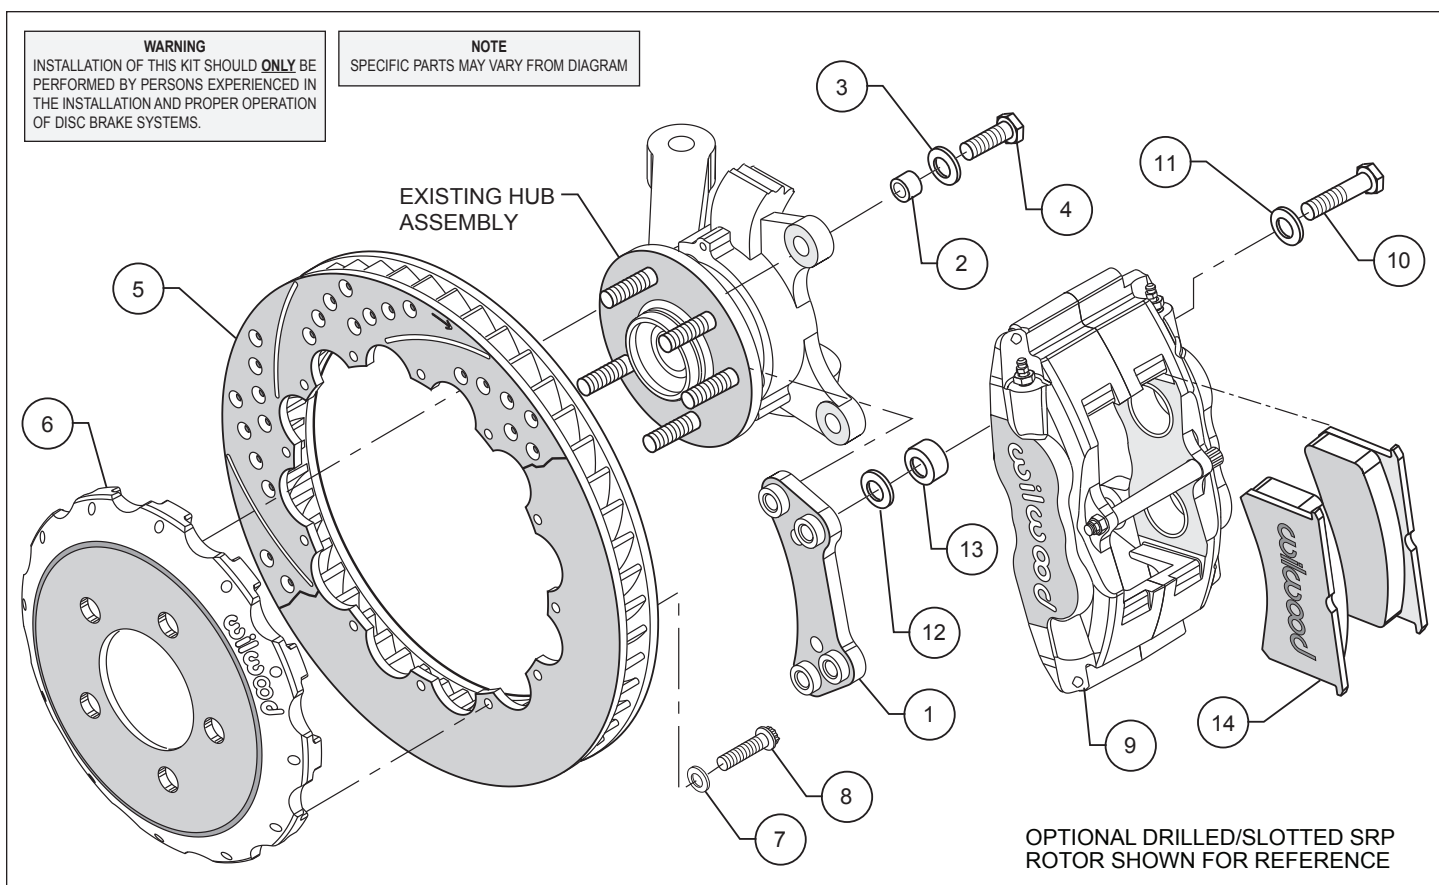

Figure 1. Typical Installation Configuration
- Insert one sleeve (2) each into the holes on the top and bottom of the spindle “ears” where the OEM caliper bracket was removed. Apply red *Loctite*® 271 to the caliper mounting bracket bolt threads (4) before installation of the caliper mounting bracket (1). Install the bracket with the flanged heads of the clinch nuts facing the outboard, as shown in Figure 1. Slide bolt (4) through washer (3) and into the previously installed sleeve (2), from the backside of the hub. Finger tighten. Repeat for the lower mounting holes. Torque bolts to 75 ft-lb.
- NOTE:** Please reference the caution statement at the beginning of the assembly instructions. With the bleed screws pointing up, mount the caliper (9) onto the caliper mounting bracket (1) using bolts (10) and washers (11), as shown in Figure 1. Insert spacer (13) between the caliper ears and the bracket, before tightening the bolts. View the rotor (5) through the top of the caliper. The rotor should be aligned in the center of the caliper. If not, loosen the two bolts and adjust the caliper by using 0.016 inch thick shims (12), placed between the spacer (13) and the bracket. Finger tighten and recheck alignment. Always use the same amount of shims on both the top and bottom caliper mounting bolts. Loosen the two bolts and apply red *Loctite*® 271 to bolt threads and torque to 75 ft-lb.
- Remove the caliper bridge bolt and install the disc brake pads (14) then reinstall the caliper bridge bolt.